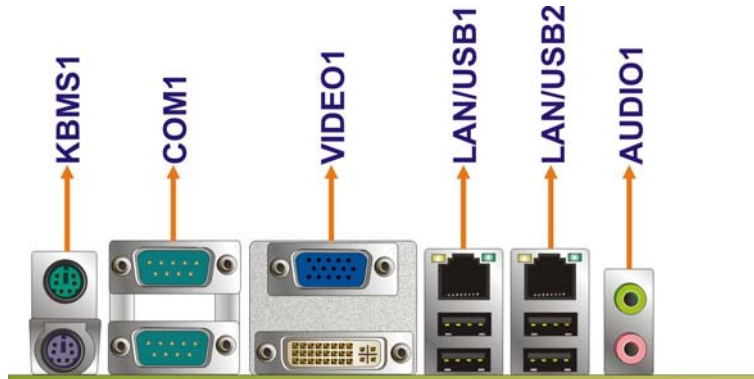

Figure 4-18: KINO-945GSE External Peripheral Interface Connector
Figure 4-18 shows the KINO-945GSE external peripheral interface connector (EPIC) panel. The KINO-945GSE EPIC panel consists of the following:
CN Location: See Figure 4-18
See Figure 4-18
- CN Location:** See Figure 4-18 (see 2)
- CN Location:** See Figure 4-18